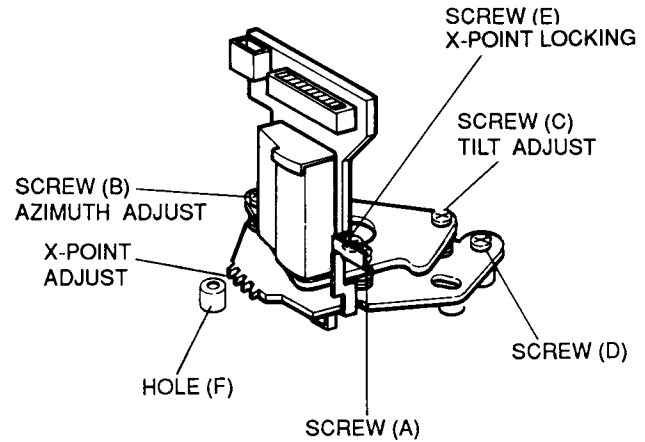

Fig. 4 Location of A/C Head Adjustment Screw
3. Turn screw (A), (B), (C) clockwise or counterclockwise until the gap of lower tape edge and the lower edge of the control head is about 0.25 mm.
- (Refer to Fig. 4 and 5)
3. Adjust screw (B) vertically to achieve maximum audio level. (See Fig. 4)
6. Turn the screw (E) counterclockwise. (See Fig. 4)
7. Insert the adjusting driver (X-Point) into the hole (F) of main base and adjust the A/C head ass'y so that envelope waveform is maximum amplitude and then tighten the screw (E).